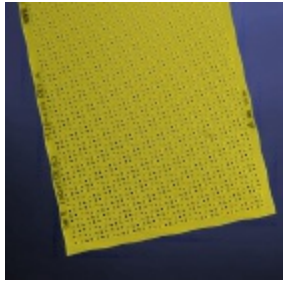
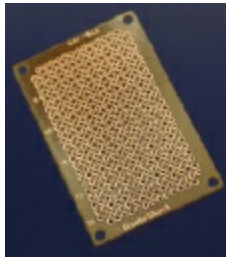

Figure 3-70.
Figure 3-71. Either this type of perforated board or the type in Figure 3-70 can be used for point-to-point wiring in Experiment 14.
1. Point-to-point wiring. You use perforated board that has no connections behind the holes. Either the board has no copper traces on it at all, as in Figure 3-70, or you will find a little circular copper circle around each hole, as in Figure 3-71. These circles are not connected with each other and are used only to stabilize the components that you assemble.